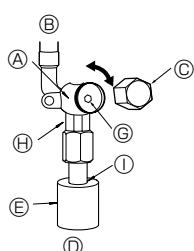
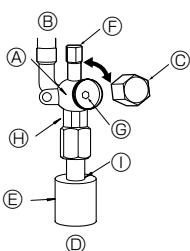

Fig. 4-5
Fig. 4-6
(1) Gas side of P100-P140 (Fig. 4-5)
- ① Remove the cap and turn the valve rod counterclockwise as far as it will go with the use of a 5 mm hexagonal wrench. Stop turning when it hits the stopper. (ø15.88: Approximately 13 revolutions)
② Make sure that the stop valve is open completely and rotate the cap back to its original position.
(2) Liquid side of P100-P140 (Fig. 4-6)
- ① Remove the cap and turn the valve rod counterclockwise as far as it will go with the use of a 4 mm hexagonal wrench. Stop turning when it hits the stopper. (ø9.52: Approximately 10 revolutions)